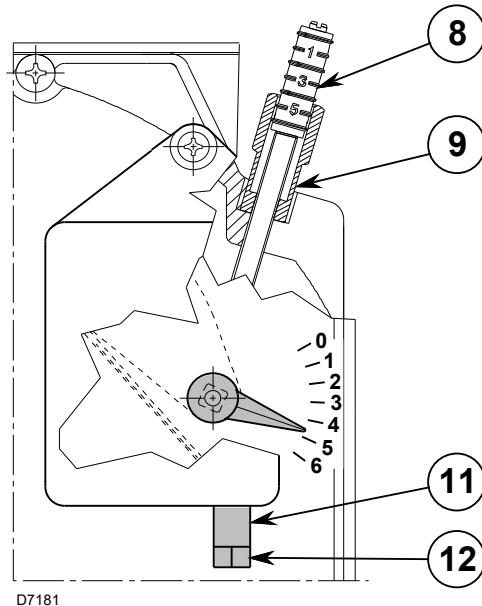

Fig. 15
The first start up should always be carried out using the screw 12)(Fig. 15), so that the 1st stage air damper position indicator is greater than notch 1, (factory setting notch 1).
- Loosen the nut 9) and use the screw 8)(Fig. 15) to adjust the 2nd stage air flow (see CO2 values in the Tab. T).
- Adjust the 1st stage using the screw 12) after loosening (clockwise) the nut 11)(Fig. 15) referring to the table below for the CO2 values.
- Once the ideal setting has been reached, block (anti-clockwise) the nut 11)(Fig. 15). When the burner stops, the air damper, due to the pressure of its weight, automatically closes, up to a max. flue depression of 0.5 mbar.